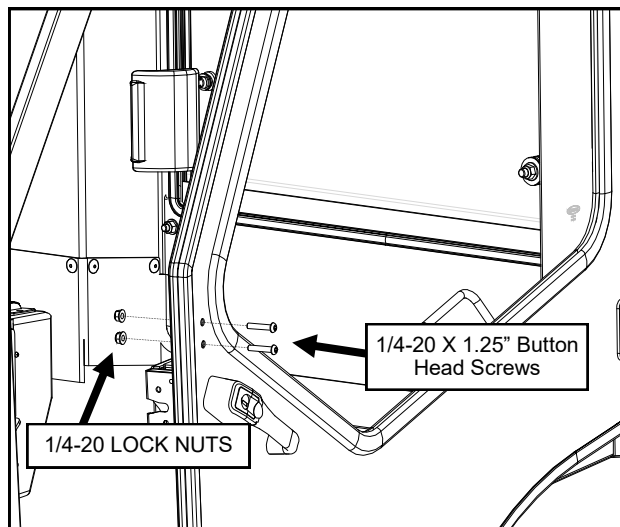

Fig. 26.1a (Install Screws to Plug Mirror Mounting Holes)
26.1 If installing accessories, please do so now. If not, use the supplied plugs and/or screws to fill any exposed holes. *The roof assembly has been hidden for clarity.* See Figures 26.1a, 26.1b and 26.1c.